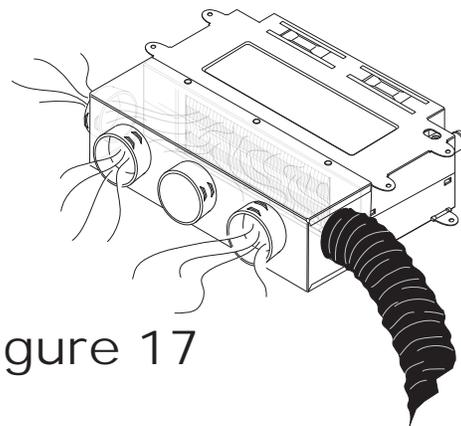

Figure 17
**NOTE:** An accessory device is available for the Cozy Heat Exchanger for the purpose of redirecting the airflow from the heat exchanger. Reference Figure 17.